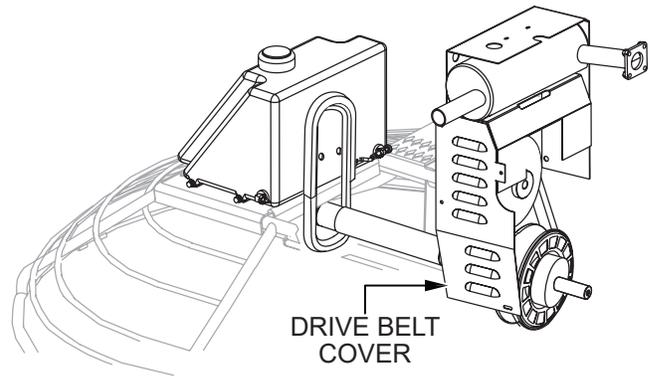

Figure 18. Drive Belt Cover
1. Remove the drive belt cover (Figure 18).